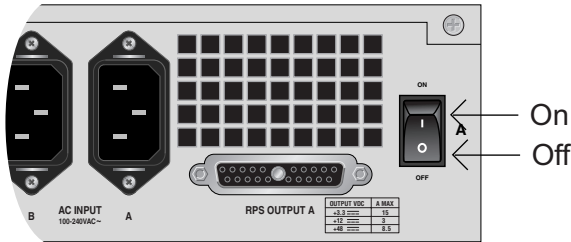

Figure 8. On/Off Power Switch
1. Verify that the On/Off switch for the pre-installed AT-PWR3101 module in Slot A is in the Off position (see Figure 8).
9. Turn the On/Off switch for Slot A on the back panel of the AT-RPS3104 system to the On position (see Figure 8 on page 22).